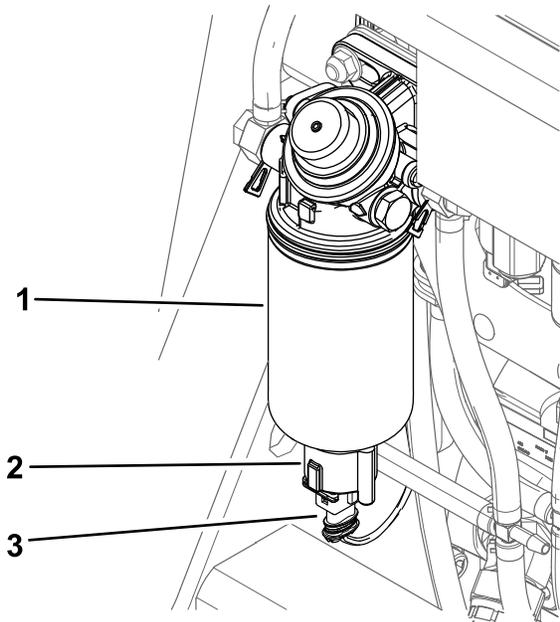

Figure 59
6. Disconnect the wire harness from the water separator (Figure 59).
8. Install the switch (Figure 59).
9. Connect the wire harness to the switch (Figure 59).
6. Unscrew the switch and drain the water separator (Figure 59).
7. Unscrew the switch from bottom of the filter canister and allow the water to drain (Figure 59).